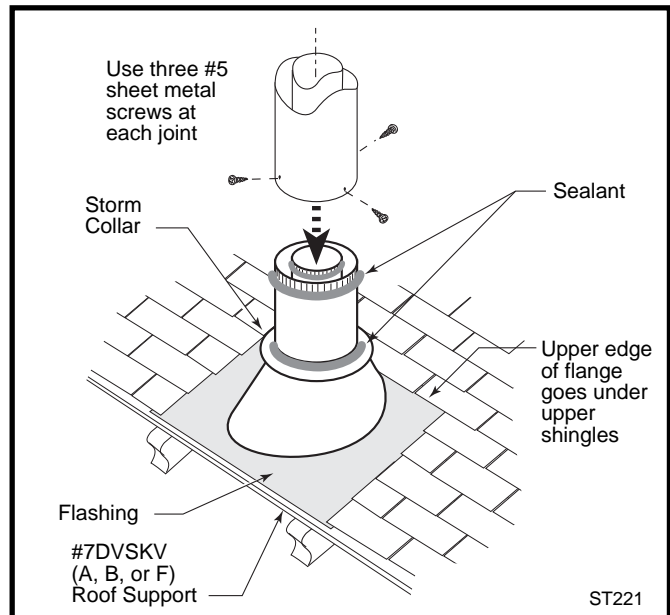

Fig. 37 Roof support and flashing.
7. Install the appropriate roof support and flashing, making certain that the upper flange of the flashing base is below the shingles. (Fig. 37)
9. Install the storm collar and seal around the joints. (Fig. 37)